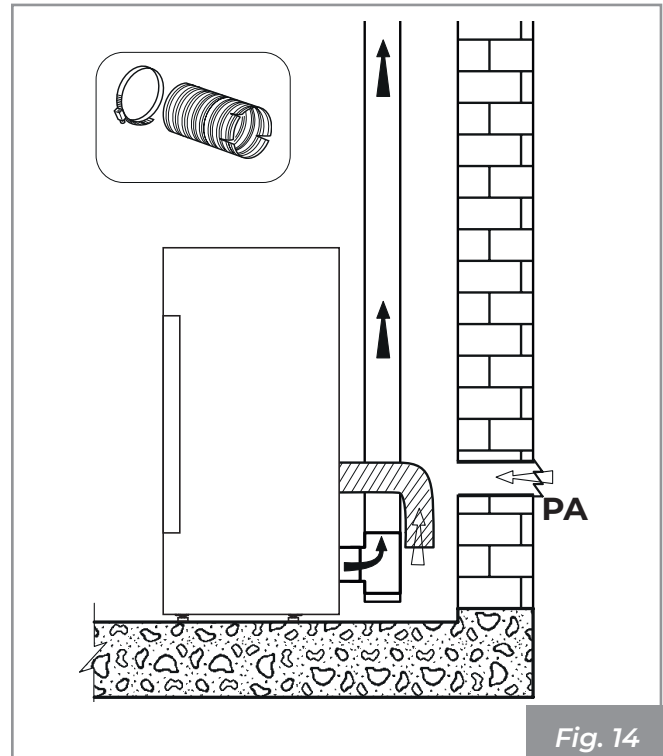

Fig. 14
- it can come from the installation room or suitable adjacent rooms (**Fig. 14**)
Create the air intake on the wall (**Fig. 14 - PA = Air Intake**), and leave the appliance to withdraw the room air, making sure to connect the section of corrugated pipe on the air inlet pipe, if supplied, fixing it with the strap and folding it slightly downwards to prevent any resonance effects.